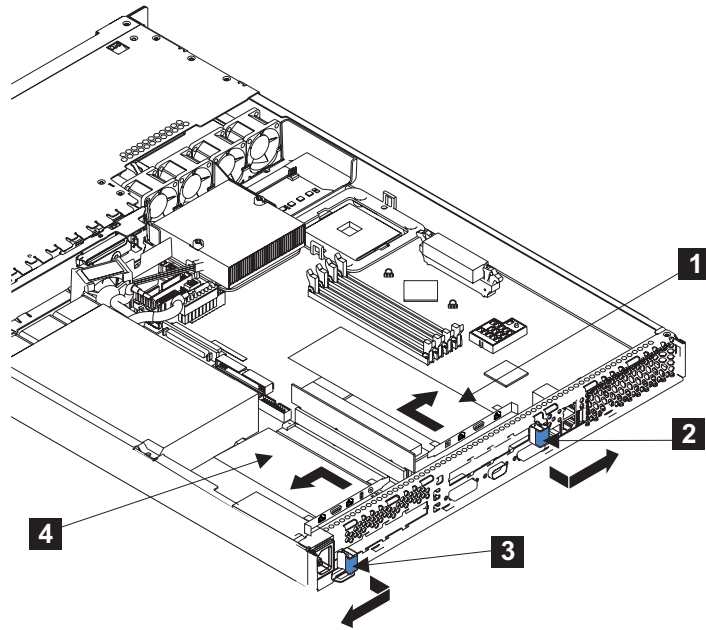

Figure 115. SAN Volume Controller 2145-4F2 before removing an adapter
4. For the adapter that you are going to remove, press the sides of the expansion-slot clip (**2** or **3** in Figure 115 on page 331) together to unlock the clip, and then pivot the expansion-slot clip away from the adapter. The expansion-slot clip remains loosely attached to the SAN Volume Controller 2145-4F2.